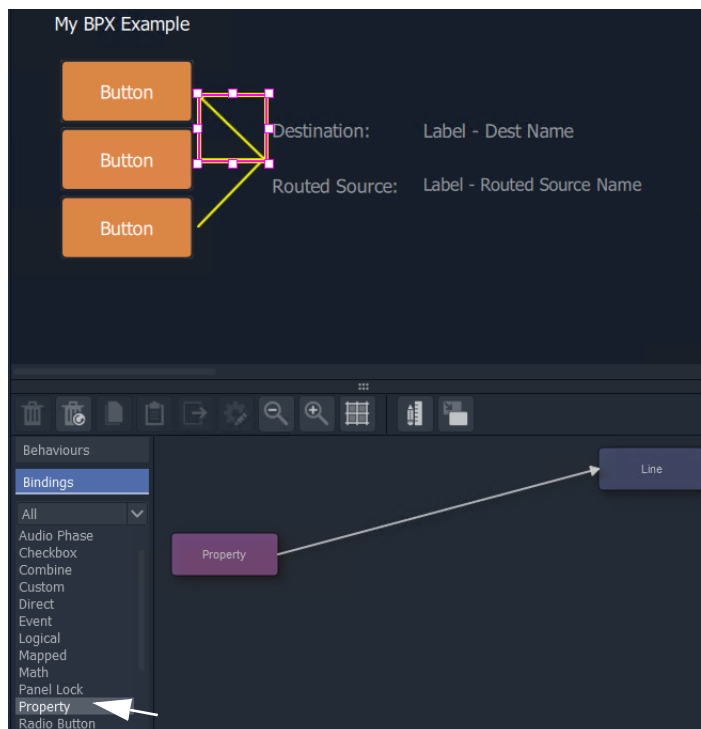

Fig. 12-61: Add Property Binding
- 4 Select the line and add a **Property** Binding. See Figure 12-61.